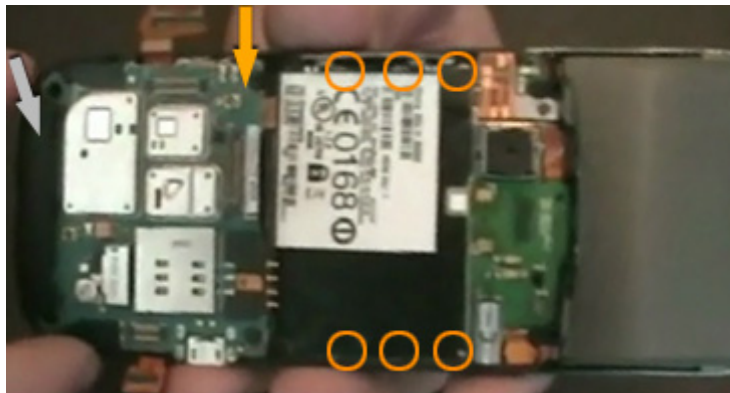

Figure 5
- Gently flip the motherboard up from the bottom (as indicated by a silver arrow in the figure 5) but be careful because you still need to disconnect the antenna cable before you could remove it from the unit. The orange arrow in figure 5 points to the location of the antenna cable connector but actually it is on the lower side of motherboard and can only be accessed when you will flip the motherboard up.
- You will now have to unscrew six T3 screws (three screws from each side). But in order to reach these screws, you need to peel off the tape covering these screws from both sides. Refer to the figure 5 to see the locations of the screws.